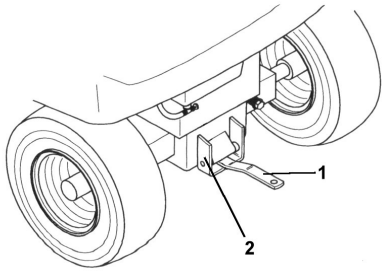

Figure 1
1. Remove tractor tow hitch by removing pin held by clips (fig. 1).